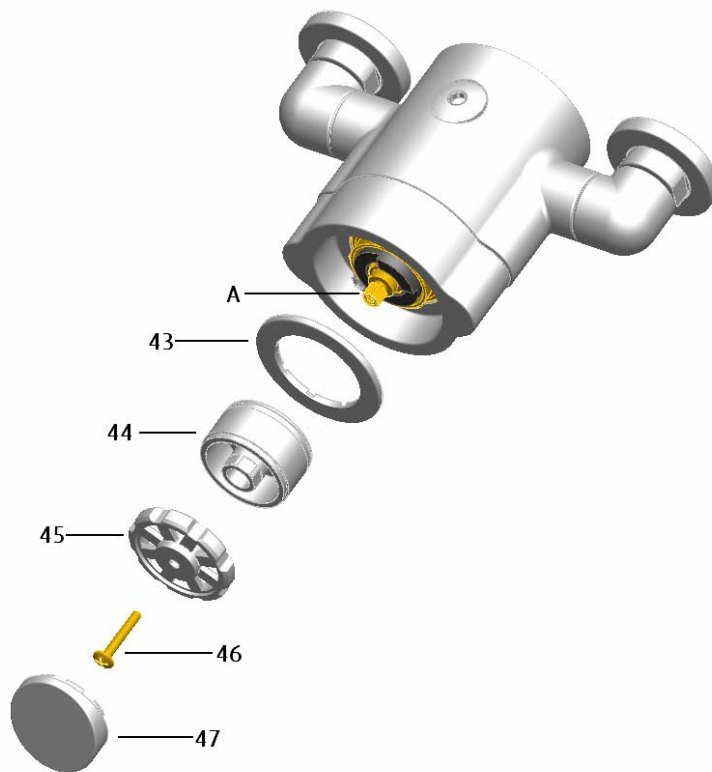

Fig. 7
8.8 Resetting the Maximum Temperature (See Fig. 7)
8.8.2 See Fig. 7 below, remove the temperature control handle, handle ring and shroud (45, 44 & 43) by removing the cap (47), remove the screw (46) and pulling the handle, handle ring and shroud (45, 44 & 43) off the spindle (A).